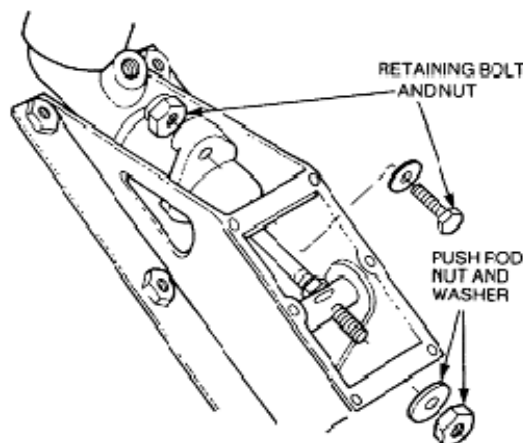

Figure 48 Clutch Master Cylinder Removal
- e. Remove the nut and washer from the push rod (Figure 48).